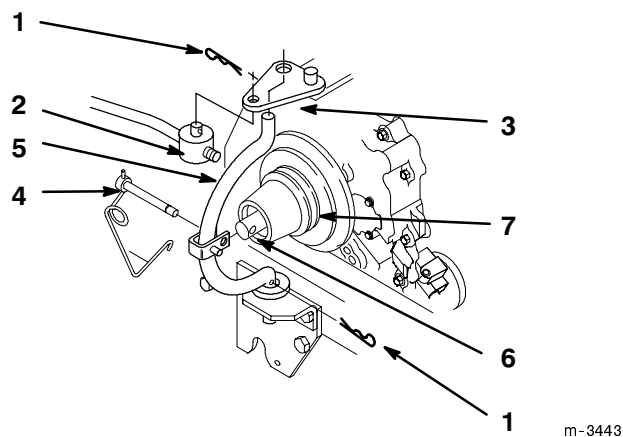

Figure 16
3. Remove hairpin cotters from trunnion and bottom of yoke (Fig. 16).
4. Unlatch and remove clevis pin that secures yoke assembly to clutch shaft. Pivot yoke out and forward to remove from clutch shaft and engagement plate (Fig. 16).
5. Place belt in pulley groove, going between clutch yoke and engagement plate (Fig. 16).
6. Assemble yoke and engagement plate and attach clevis pin, trunnion and hairpin cotters to secure (Fig. 16).